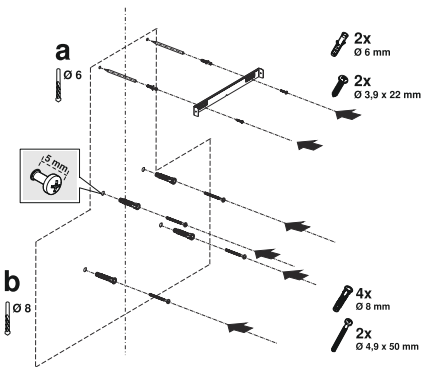

Fig. 11
1. Draw a mid location line from the ceiling perpendicular to the lower edge of the hood (Fig. 11).
2. There is a tab in the middle of the flue connection plate. Place the middle point of this tab on the line that is drawn perpendicular to the wall. Align horizontally and mark the holes where the connection plate will be mounted via a pen (Fig. 11/a).
Drill the marked points with $\text{Ø}6\text{mm}$ drill and insert $2\times\text{Ø}6\text{mm}$ plastic dowels in the drilled holes (Fig. 11/a).
Fix the flue connection plate to the wall with $3,9\times 22$ screws (Fig. 11/a).
3. To drill the suspension holes of the flue, place the mounting template on the surface where the appliance will be mounted on and mark the mounting holes (Fig. 11/b).
4. ▶ Drill the suspension holes with $\varnothing 8\text{mm}$ drill and place the dowels (Fig. 11/b).
Place 2x4.950 suspension screw with a clearance of 5 mm between the screw head and the wall (Fig. 11/b).
- The cooker hood is set in the midst, and then the flue connecting plate is directly affixed to the wall, under the cover or points E and F are marked after performing a measurement (Fig. 11)
- Drill points E and F with $\varnothing 6\text{mm}$ drill bit, and insert $\varnothing 6\text{mm}$ and plastic dowels. Insert the flue connection plate with 3,9x22 screws (Fig. 11).